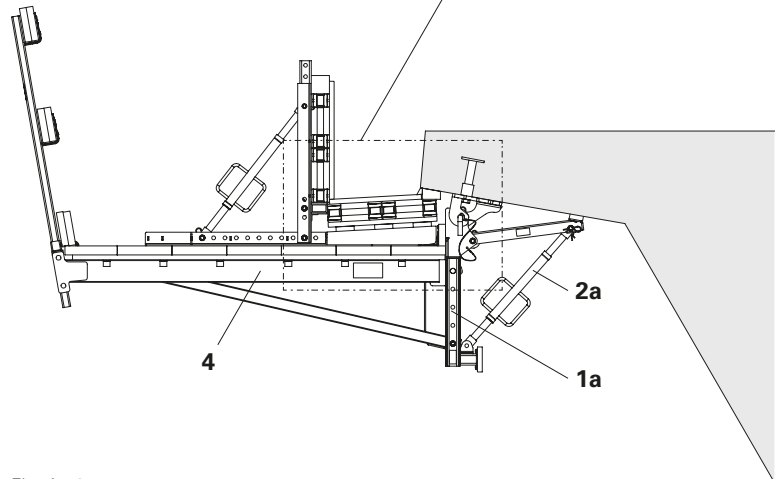

Fig. A4.01
- Kicker Brace AV 82 (**2a**) is always connected to the base of Bracket Post VGK 70 (**1a**) by means of bolts and cotter pins. (Fig. A4.01)
- Mount Platform Cantil. Beam VGK 170 (**4**) in the top and bottom holes of Bracket Post VGK 70 (**1a**). (Fig. A4.01)